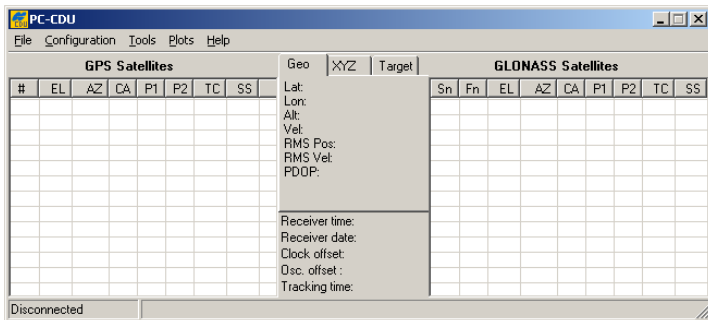

Figure 3-6. PC-CDU Main Screen
2. Start PC-CDU on your computer. The PC-CDU main screen displays (Figure 3-6).